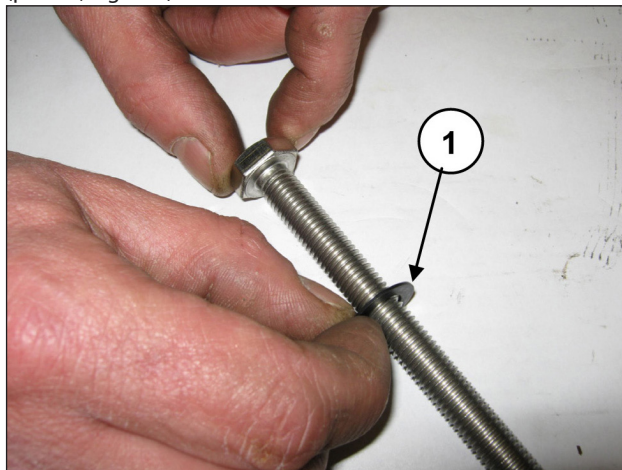

Fig. 181
Insert the Ø10x18x0.9 washer in the piston fixing screw (pos. ①, Fig. 181).